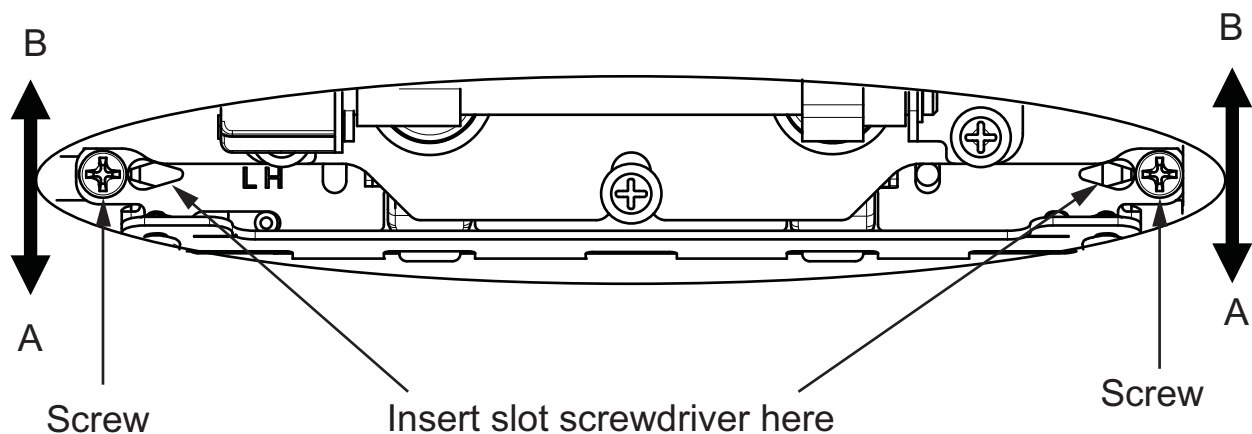

Figure 6-10, Print Head Adjustment, Enlargement of Portion of Figure 6-9
2. Loosen the screws indicated in Figure 6-10 with Phillips screwdriver. Do not completely unscrew.